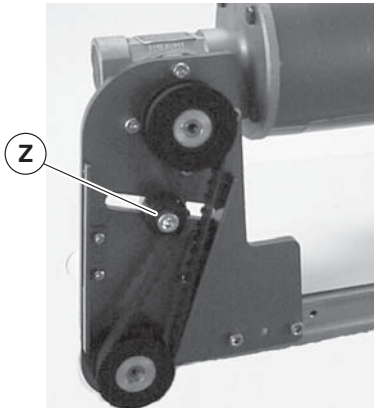

Figure 19
2. Loosen tensioner (Figure 19, item Z).